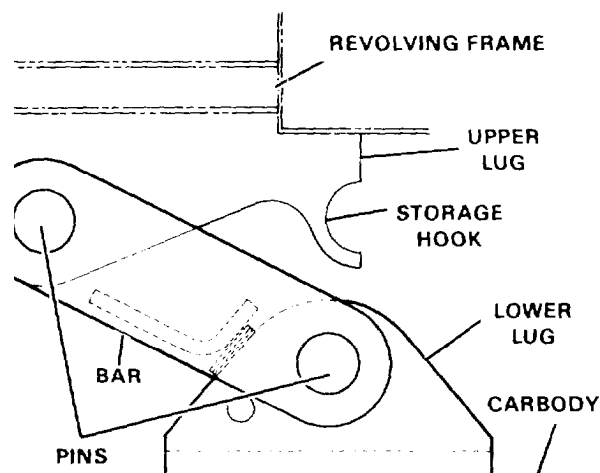

Figure 2-5. Anti-Rotation Bar (2100J1046)
50. ANTI-ROTATION BAR (See Figure 2-5). This anti-rotation bar should be used when the machine is transported from one site to another. The revolving frame can be locked in either the forward or rearward position.